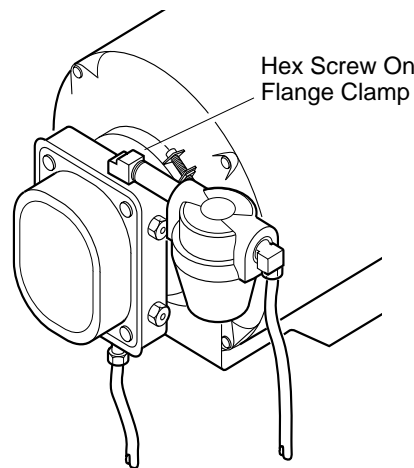

Figure 11 - Location of Screw on Flange Clamp
2. Loosen hex screw on flange clamp at rear of motor with 5/16" nut-driver (see Figure 11).